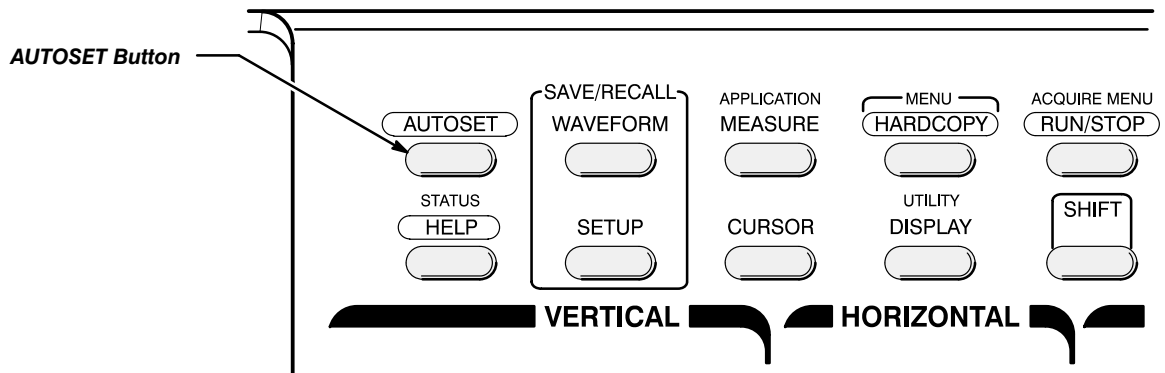

Figure 1-10: AUTOSET Button Location
2. Press **AUTOSET** (see Figure 1-10) and observe the stable waveform display.